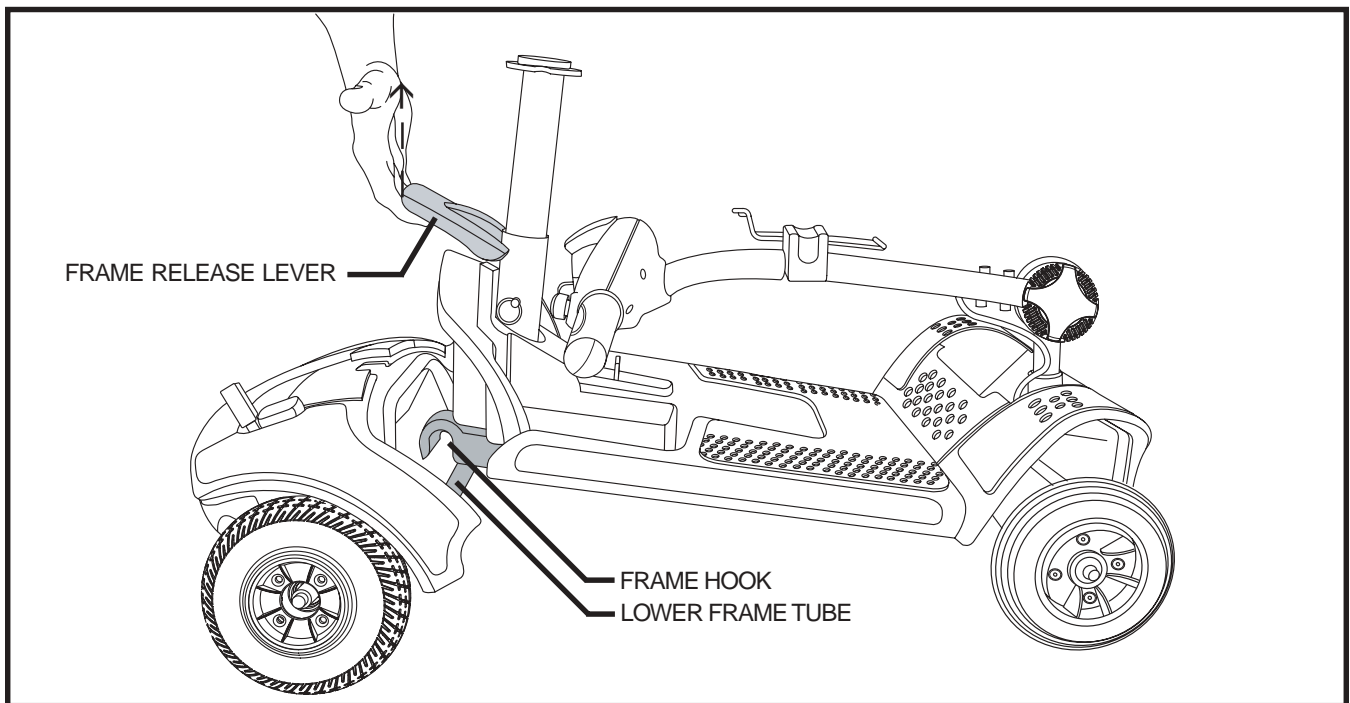

Figure 24. Frame Release Lever
3. Slowly separate the two sections of the Travel Scooter. **See figure 24.**
NOTE: Before attempting assembly, tilt the rear half of the Travel Scooter slightly back on the anti tip wheels as show in figure 24.
1. Use the frame release lever to lift the front section as you align the frame hooks of the front section with the lower frame tube of the rear section. **See figure 24.**